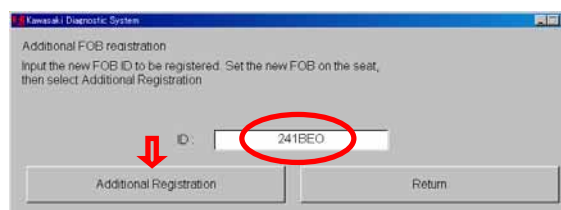

Fig. 5-33 Additional Registration
- Fig. 5-33 is a sample of an additional registration. Enter the FOB's ID number and select *Additional Registration*.